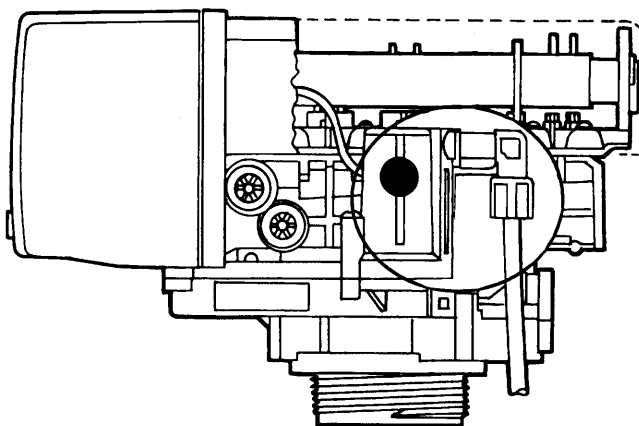

Figure 6
Install an appropriate fitting onto the 1/4-inch male NPT connection on the air check (Figure 6), and install a length of 3/8-inch polyethylene tubing between the air check fitting and the brine pick-up tube at the brine tank. If you are using a brine valve remove the ball in the air check to avoid possible premature checking.
6. Carefully rotate the tank 1 camshaft, followed by the tank 2 camshaft, COUNTERCLOCKWISE until the indicator on the regeneration cycle indicator points directly to the center of the **Refill** position. Hold there until the air checks (Figure 6) fill with water and water flows through the brine line into the brine tank. Do not refill for more than two minutes.